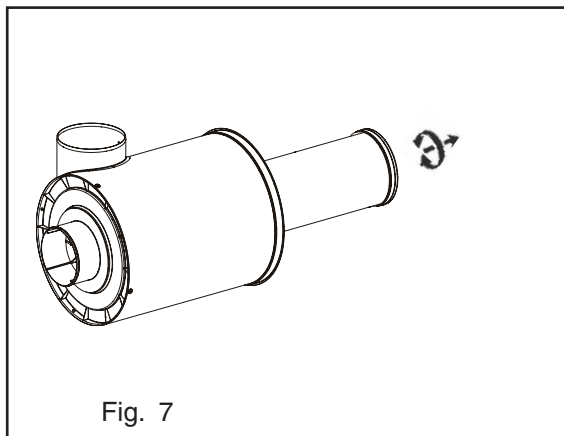

Fig. 7
4. Use both straps to take hold of the inner element and then pull out with a light turning movement (fig. 7).